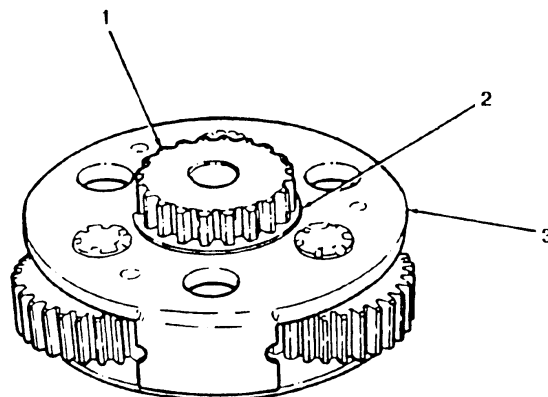

FIGURE 3-4
2. Skip step 19 on page 15-6 If splined drive (1) and retainer ring (2) are part of stage-three gear carrier (3). (see figure 3-4)